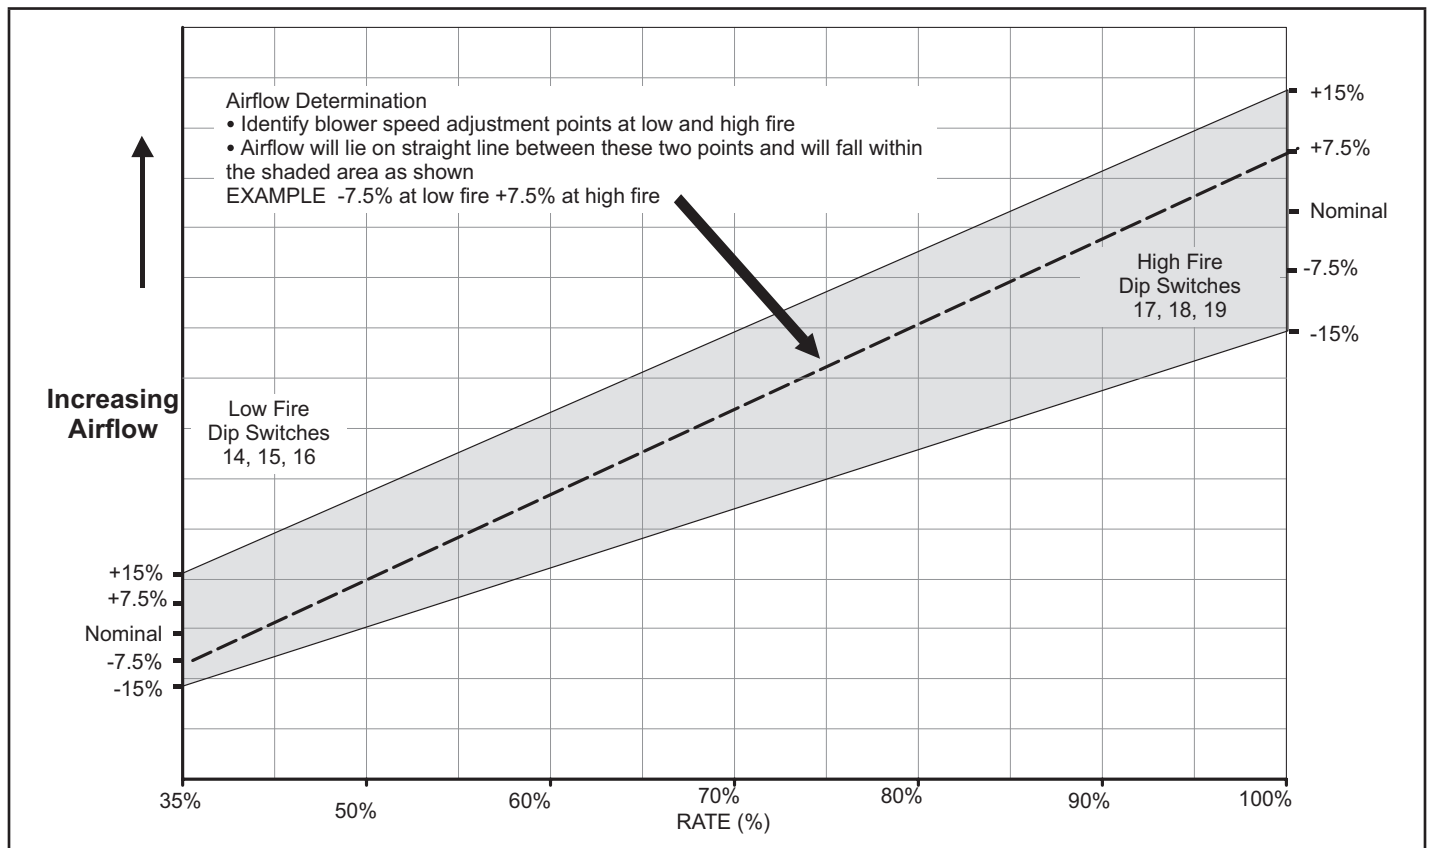

FIGURE 6
-- Switches 14 through 19 are used to select heating mode blower motor speeds. These switches are factory set at the OFF position which provides 100 % of normal speed during HIGH HEAT demand, 70% of normal speed during MIDRANGE HEAT demand and 40% of normal speed during LOW HEAT demand. Switches 14, 15 and 16 are used to adjust the LOW FIRE blower motor speed. Switches 17, 18 and 19 are used to adjust the HIGH FIRE blower motor speed. FIGURE 6 and TABLE 12 TABLE 13 provides the heating mode blower speeds that will result from different switch settings. FIGURE 6 indicates the effect the DIP switch settings have upon the heating airflow at various furnace firing rates. Refer to blower tables at the front of this manual for corresponding cfm values.